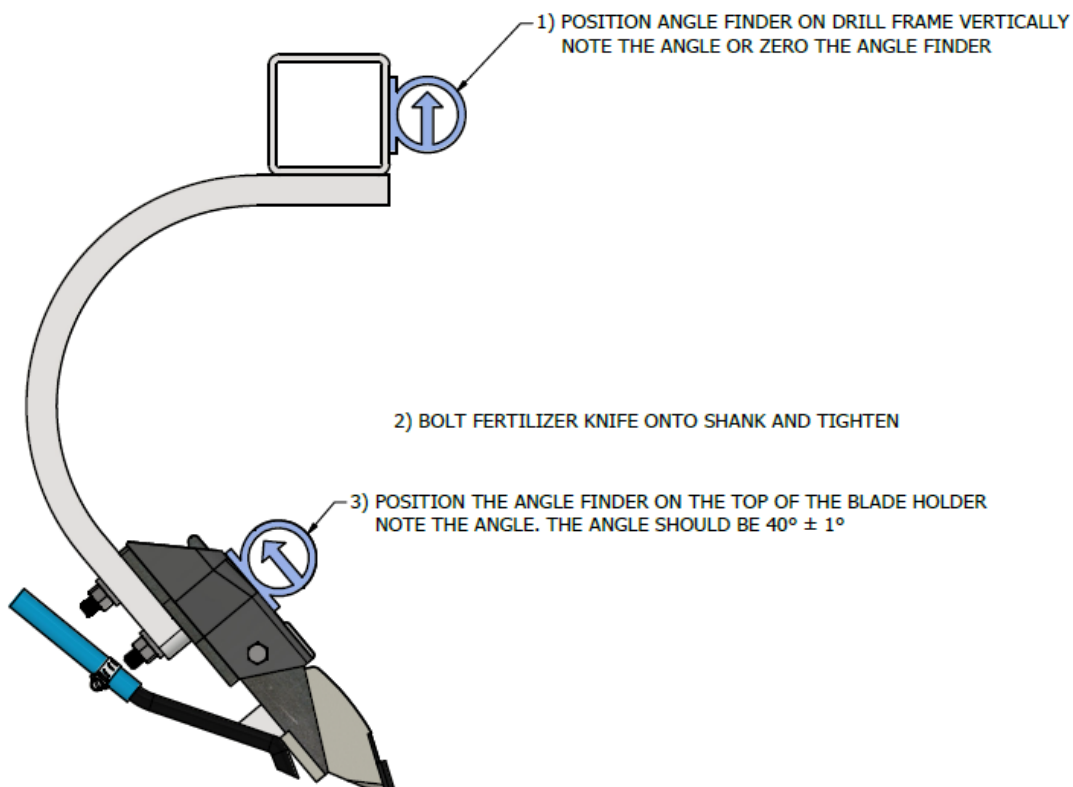

Figure 1: Angle measurement procedure
- 1) Bolt the blade holder to the shank using the provided carriage bolts, washers, and locknuts, remembering to check the shank angle as described in Figure 1.